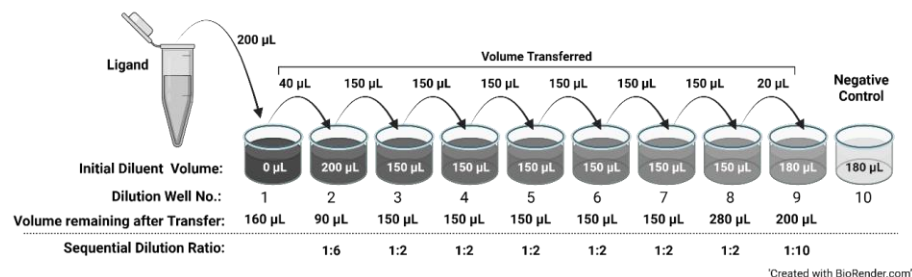

Figure 3: Preparation of Follitropin alfa Dilution Series
- 3) Prepare Follitropin alfa dilution series at 3X the desired final concentration (Figure 3). Follitropin alfa (Gonal-F) is supplied as a 600 IU/mL (300 IU in 0.5 mL) stock solution. Top dose in dilution series is 0.006 IU/µL or 6 IU/mL in the assay: 3X = 18 IU/mL.